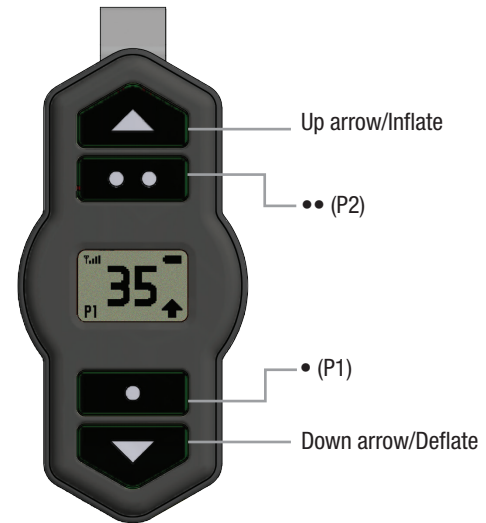

fig. B.5
1. Set the pressure to the desired level using the inflate and deflate buttons (Fig. B.5).